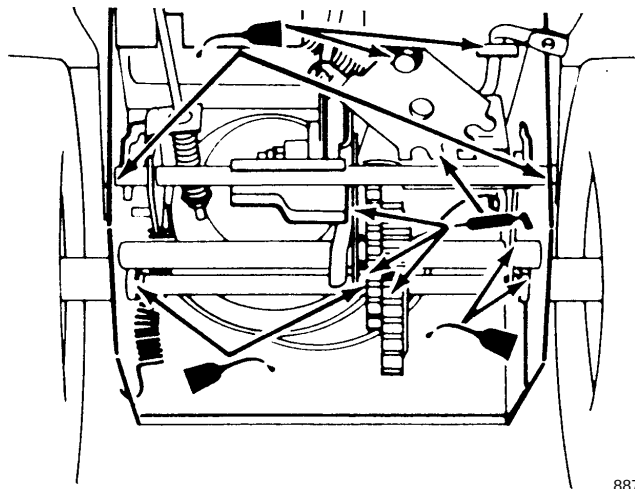

Figure 28
5. Lightly lubricate the snowthrower with light oil as shown in Figure 28
6. Grease the snowthrower as shown in Figure 28.